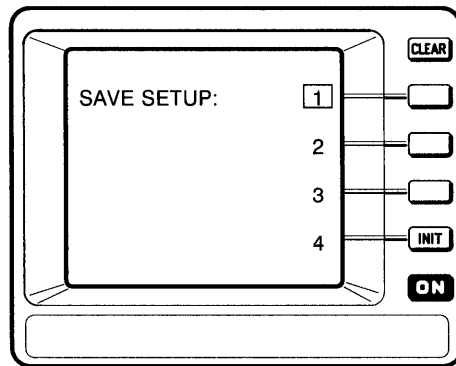

Figure 3-29: The Save Setup Menu
- Step 3:** Press the button next to the menu item **SAVE**. A new menu appears, as shown in Figure 3-29.
*If one of the numbers appears boxed, as the number 1 does in Figure 3-29, the memory location already contains a setup. Saving a new setup to that location erases the previous setup. If you wish to keep the old setup, select an unboxed number, representing an unused memory location.*